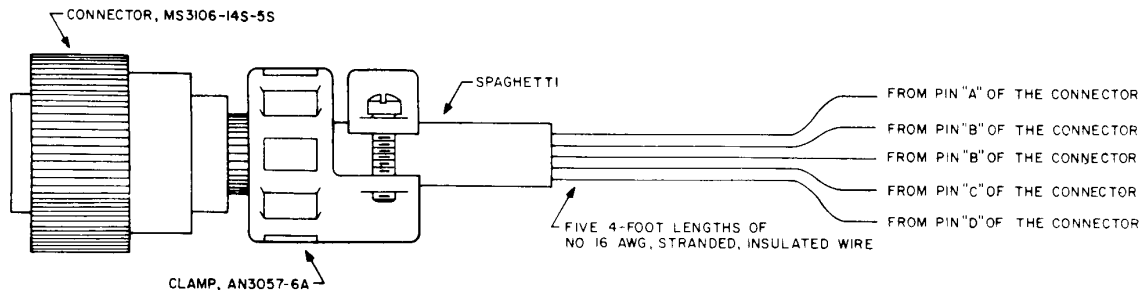

Figure 1. Fabricated cable for the BEARING INDICATOR, construction details.
Banana plug to banana lead. (2 required) Banana plug to pin adapter, (2 required) and Banana plug to alligator clip (quantity as required) Fabricated cable. (figure 1) Some modification of this cable is permissible as to size, length, and loose ends.
b. Fabricate a cable for the BEARING INDICATOR in accordance with the details in figure 1. This cable is required to connect the BEARING INDICATOR to power and to provide test points.